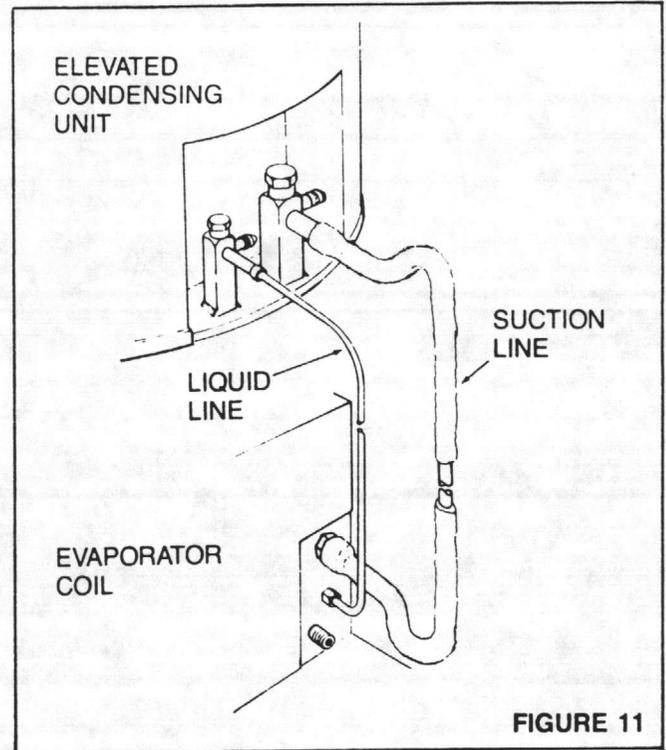

FIGURE 11
**NOTE:** When the condensing unit is installed above the evaporator coil, it should be installed with trap at evaporator coil and inverted "P" trap at top of riser. SEE FIGURE 11.